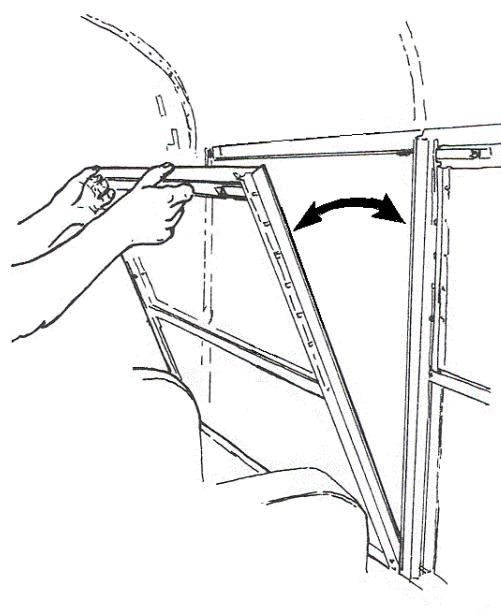

Figure 171 Passenger Window Removal
- b. Tilt the top of the window in and away from the bus light bar assembly. (see Figure 171).